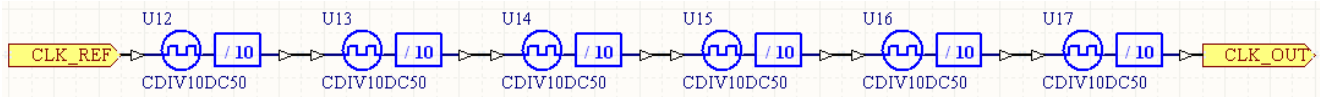

Figure 24. Clock division circuitry on the schematic sub-sheet Clock_Divider.SchDoc.
7. Access the **Libraries** panel and place six clock divider components (CDIV10DC50 – divide by 10 with 50% duty cycle output) from the FPGA Generic integrated library (FPGA Generic.IntLib) onto this new sheet. Connect the components in series and between the two ports as shown in Figure 24.